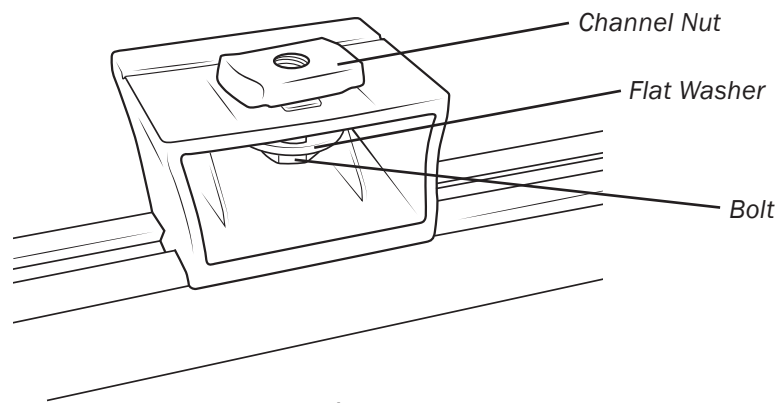

Figure 4
1. Attach supplied mounting hardware to rail feet (Fig. 4). Leave the hardware OFF of the rear three feet at this time.